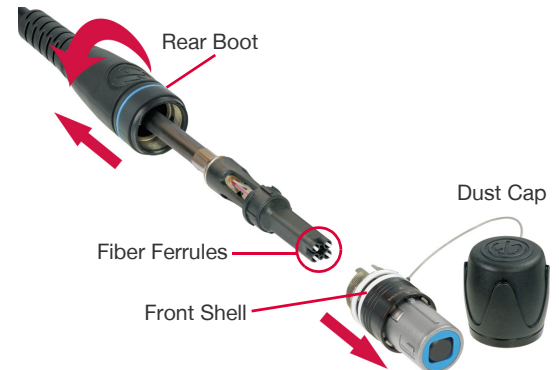

Figure 2-6: opticalCON QUAD Components
- Step 3. Spin the rear boot from the front shell. When released, slowly separate pieces. Note: Exposed fiber ferrules are high susceptible to damage. (**Figure 2-6**)